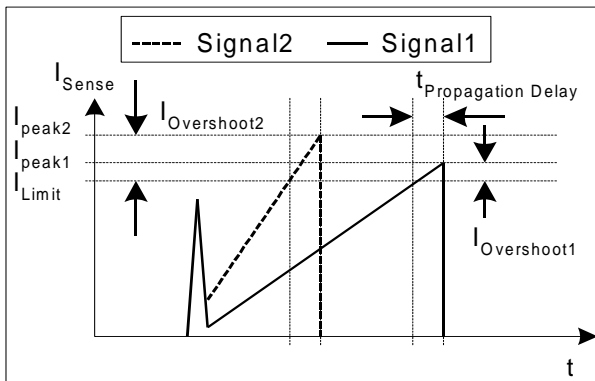

Figure 16 Current Limiting
So current limiting is now capable in a very accurate way (see Figure 16).
E.g. $I_{peak} = 0.5A$ with $R_{Sense} = 2$. Without propagation delay compensation the current sense threshold is set to a static voltage level $V_{csth} = 1V$. A current ramp of $dI/dt = 0.4A/\mu s$, that means $dV_{Sense}/dt = 0.8V/\mu s$, and a propagation delay time of i.e. $t_{Propagation Delay} = 180ns$ leads then to a I_{peak} overshoot of 12%. By means of propagation delay compensation the overshoot is only about 2% (see Figure 16).